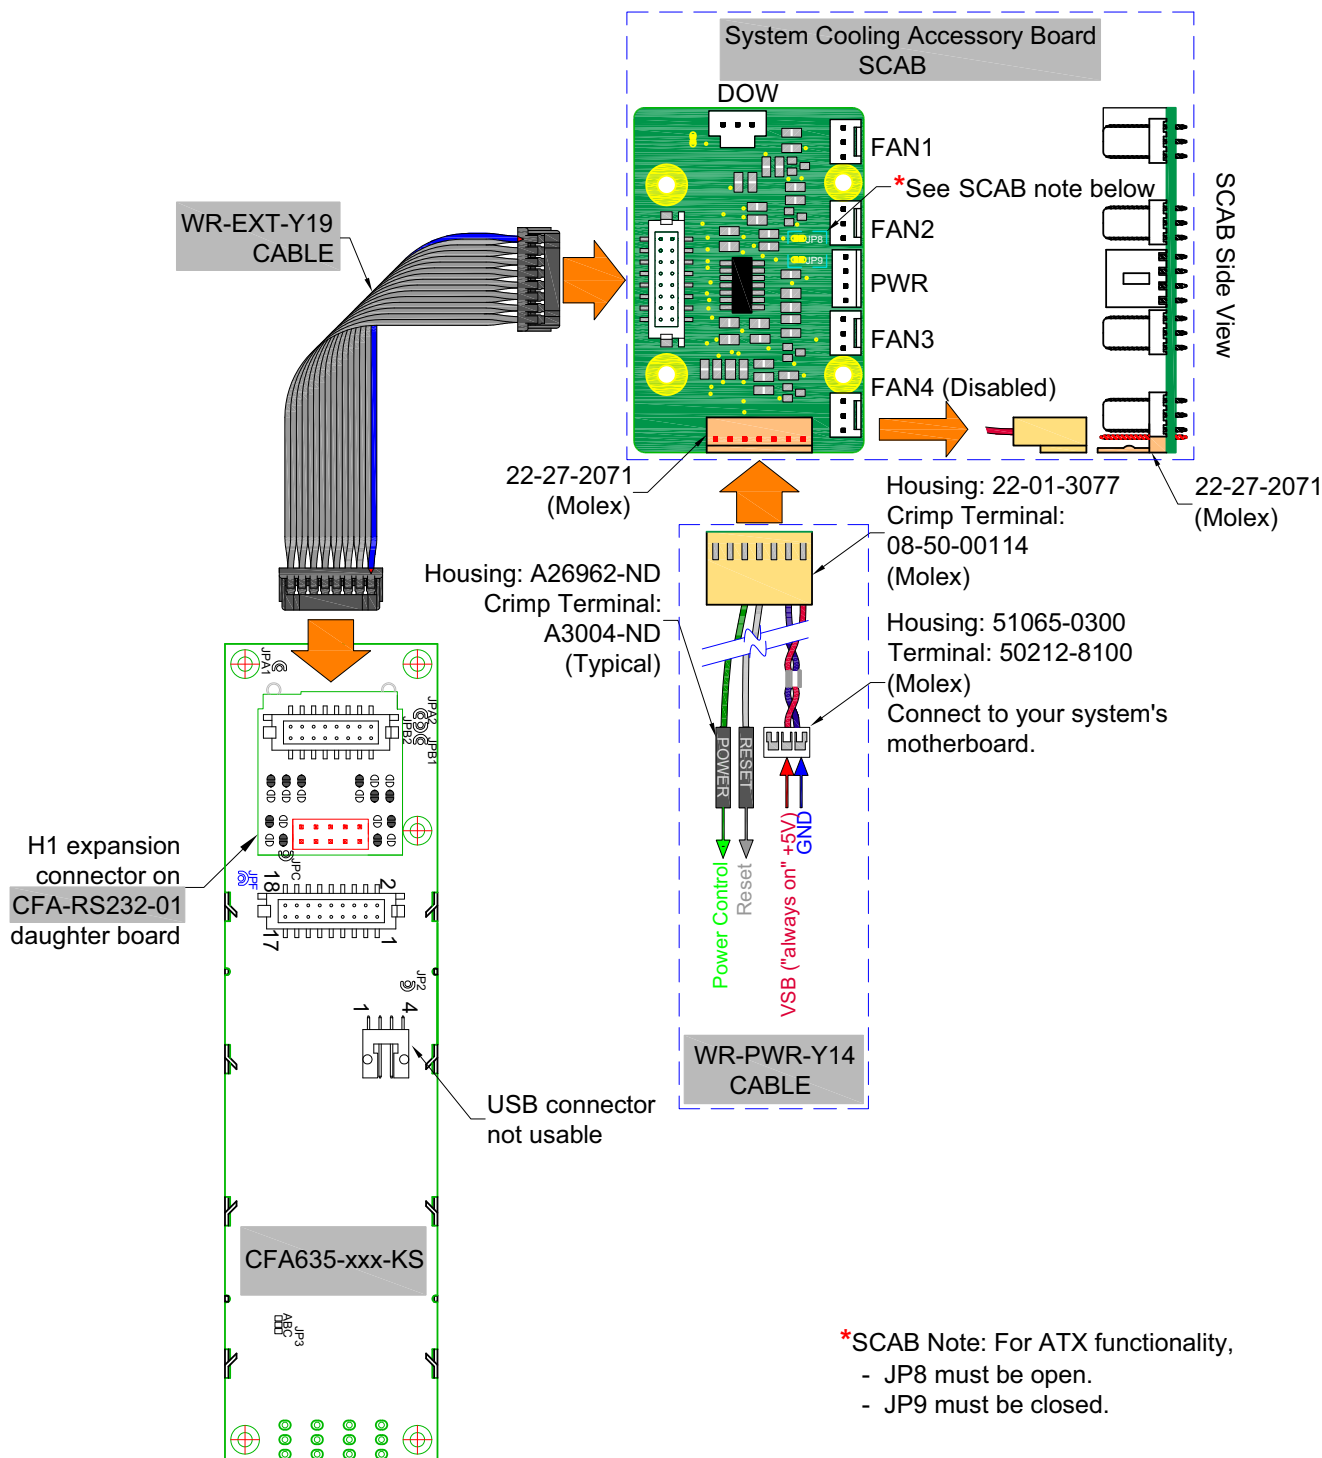

Figure 7. ATX Power Supply and Control Connections Using CrystalFontz SCAB
*SCAB's JP8 must be open and JP9 must be closed. For quick reference of location, see Figure 7. on Pg. 23 . For details, see the SCAB Data Sheet on www.crystalfontz.com/product/SCAB.html#docs .